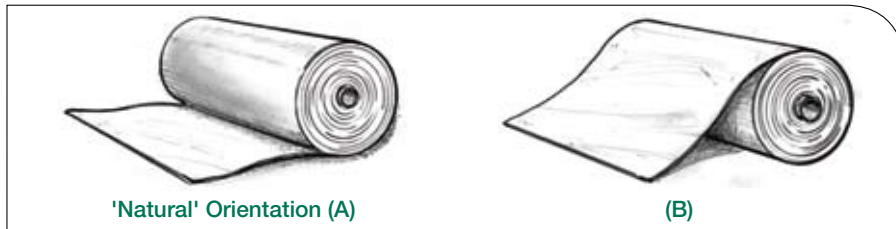
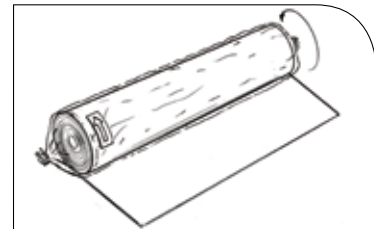

FIGURE 5 The GCL can be unrolled in its 'natural' orientation (A) or can be pulled from the top of the roll (B)
FIGURE 6 Direction to unroll GCL on ground per Figure 5A
5.1 GCL rolls should be taken to the work area of the site in their original packaging. The orientation of the GCL (i.e., which side faces up) may be important if the GCL has two different types of geosynthetics. Check with the project engineer in order to determine if there is a preferred installation orientation for the GCL. If no specific orientation is required, allow the roll to unwind from the bottom rather than pulling from the top (Figure 5). The arrow sticker on the plastic sleeve indicates the direction the GCL will naturally unroll when placed on the ground (Figure 6). Prior to deployment, the packaging should be carefully removed without damaging the GCL.